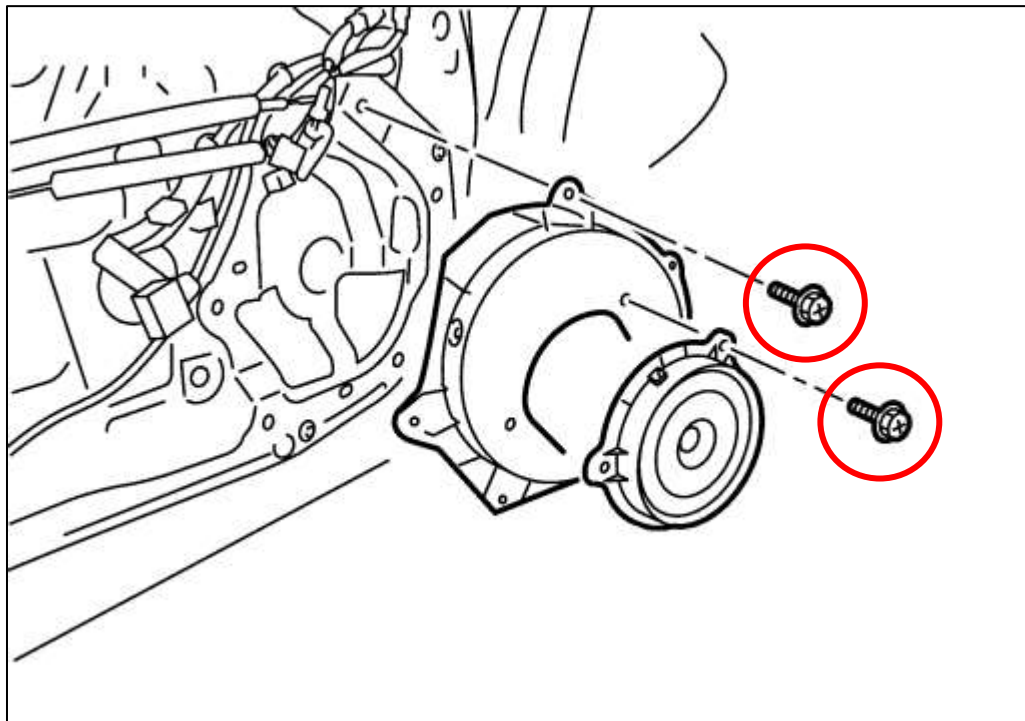

Figure 61
10. Remove the bolts securing the Door Speaker to the Door and remove the Speaker from the Door. *Figure 61.*